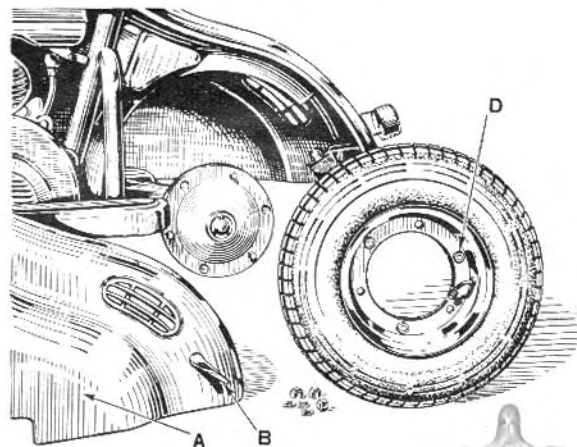

Fig. 9
(B) to the hub (C); before dismantling the wheel on the model ld (fig. 9) remove the left side